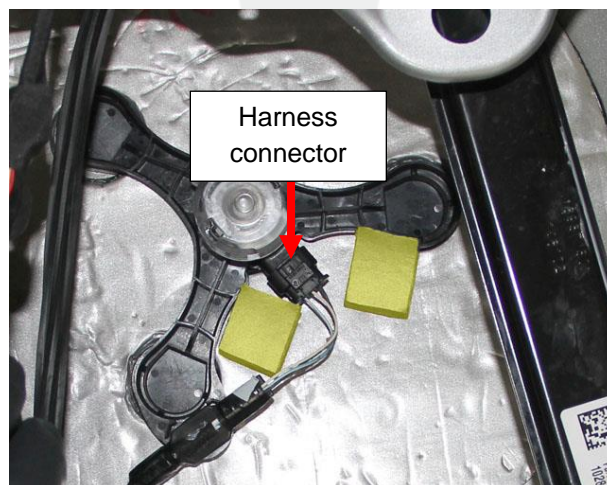

Figure 2 (Foam tape highlighted)
3. Install the 2.5 cm pieces of foam tape on both sides of the sensor harness connector as shown (Figure 2).